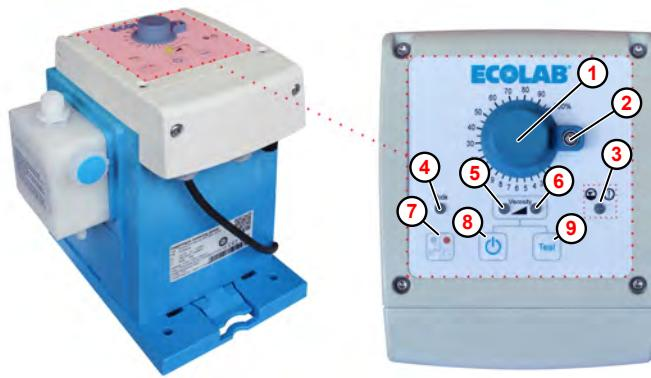

Fig. 15: On/off button of the 'EcoUp'
① Rotary knob for adjusting the dosing quantity
② Locking of the dosage rate adjustment
③ LED – Alarm signal, flashing red
④ LED operating mode
⑤ LED operating status / metering mode "viscosity low"
⑥ LED operating status / metering mode "viscosity high"
⑦ Button for switching between manual/pulse mode
⑧ On/off switch
⑨ Test button
1. ➔ Use the On/Off button ( Fig. 15 , ⑧ ) to switch the pump on and off.
*Depending on the selected metering mode, either the left LED ( Fig. 15 , ⑤ , Viscosity low) or the right LED ( Fig. 15 , ⑥ , Viscosity high) lights up or flashes.*
- 1.** When the pump is switched on for the first time, the operating mode LED (Fig. 15, ) is off. The pump starts running immediately after switching on, the LED operating status / metering mode  or  lights green.